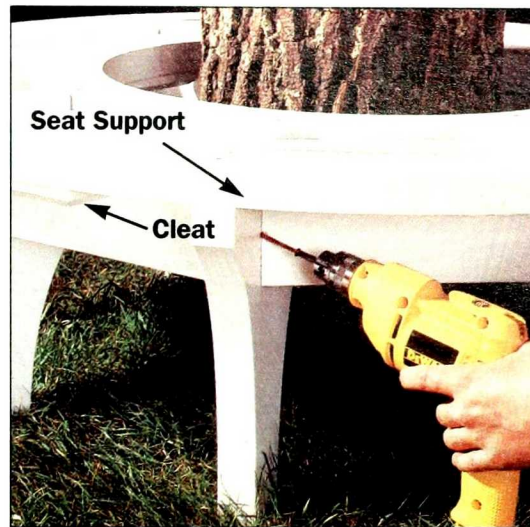

Figure 4: Assemble the base of the bench around your tree after painting all the parts. The base is made of four sections, joined underneath with cleats.
- Screw together the legs (A) and seat supports (B and C), making sure you don't install the legs backwards (see leg detail in plan, page 57).
- Position an apron piece (D) between every other pair of legs, drill through the legs, and screw them on.
- Position the remaining apron pieces, then drill and screw them on (Figure 4). The screws must enter at an angle through the ends of the apron pieces and into the legs (see detail 1 in plan, page 56).